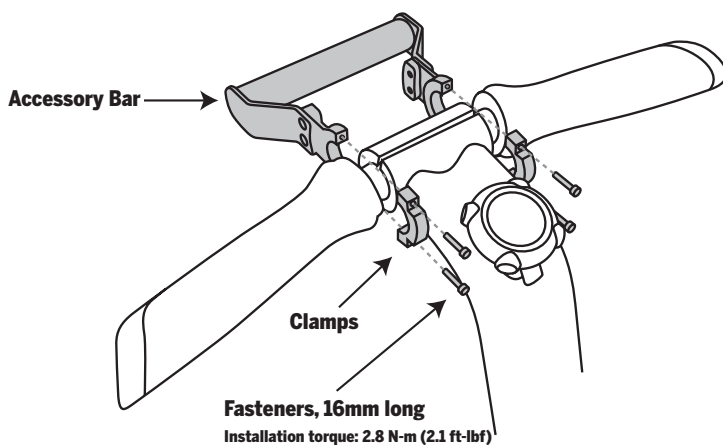
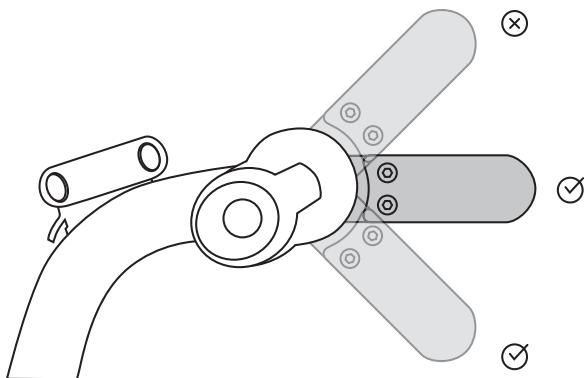

Figure 2. Install the Accessory Bar on the Handlebar
Figure 3. Ensure the Accessory Bar is positioned in front of or below the Handlebar Clamp
3. Install the Accessory Bar and clamps over the exposed section of handlebar. See Figure 2.
4. Loosely thread the (4) included 16mm long fasteners through the (2) Accessory Bar Clamps.
5. Ensure that the Accessory Bar is positioned in front of or below the Handlebar Clamp. See Figure 3.